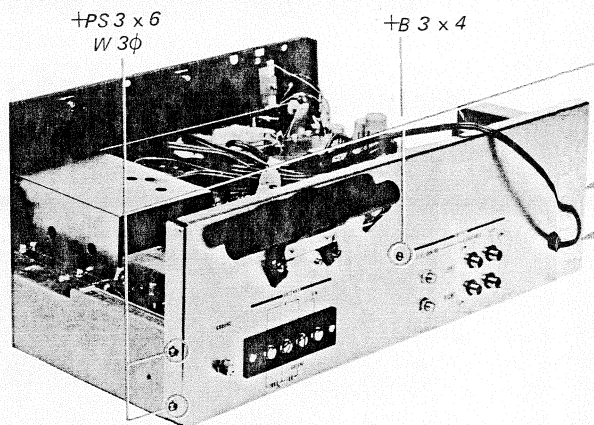

Fig. 2-5 Rear panel removal
2. Remove the two screws (+PS 3 X 6) at each side of the rear panel and one screw (+B 3 X 4) as shown in Fig. 2-5.